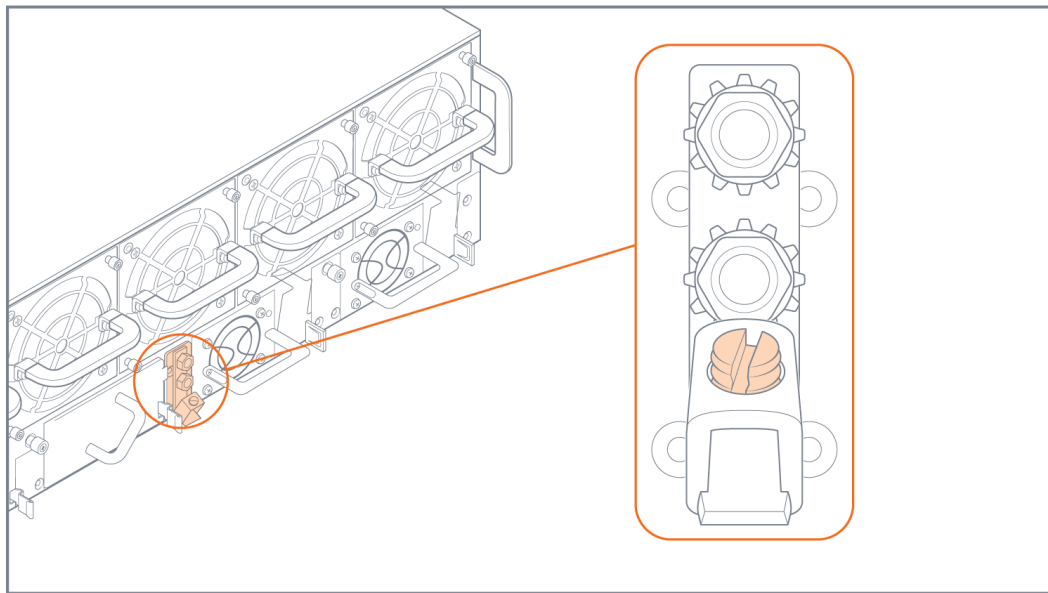
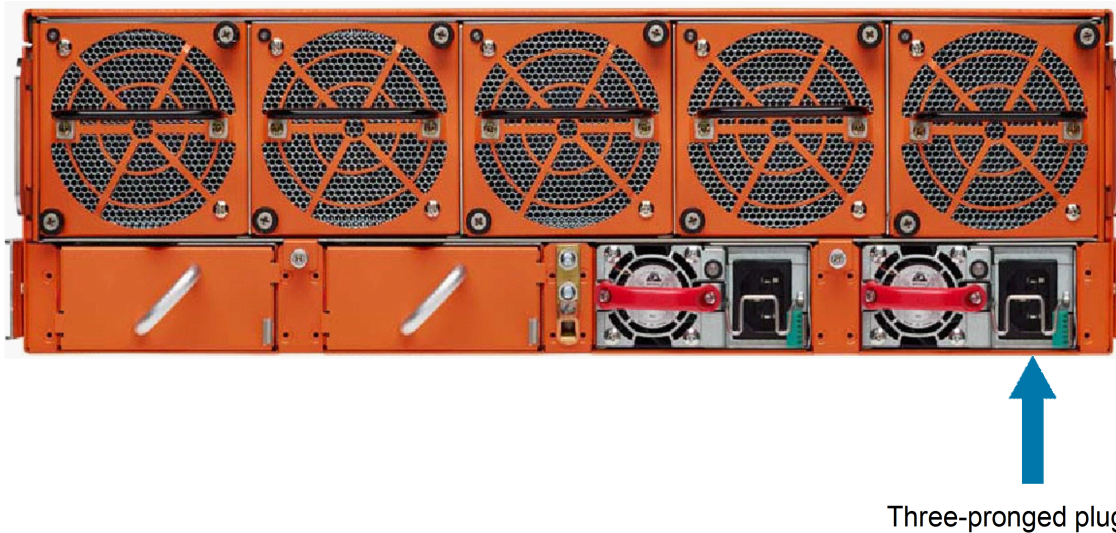

Figure 1 Grounding Lug on Rear of GigaVUE-HC3
Figure 2 *Connecting AC Power*
1. Locate the grounding lug at the center rear of the chassis. Refer to Figure 1 Grounding Lug on Rear of GigaVUE-HC3 (or Figure 2 Rear View of the GigaVUE-HC3 Chassis) for the location on a GigaVUE-HC3 node.